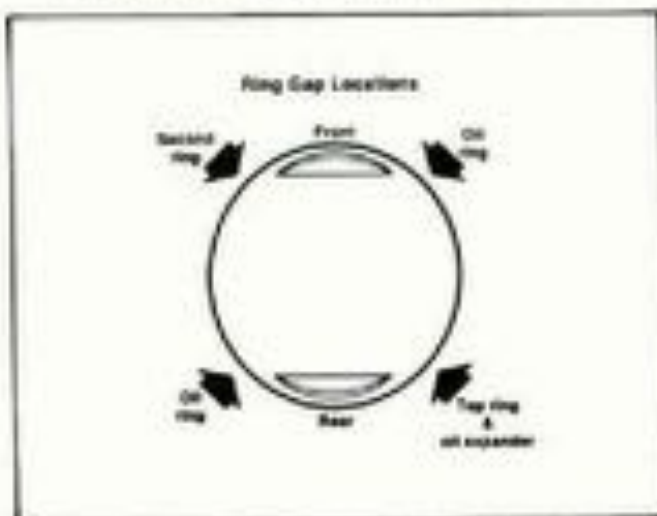

Figure 3-21. Positioning Ring Gaps
3. Install the new rings on the piston making sure the dot on the second compression ring is facing up. Stagger the ring gaps as shown in Figure 3-21.
2. Make sure the piston ring end gaps are properly positioned as shown in Figure 3-21.